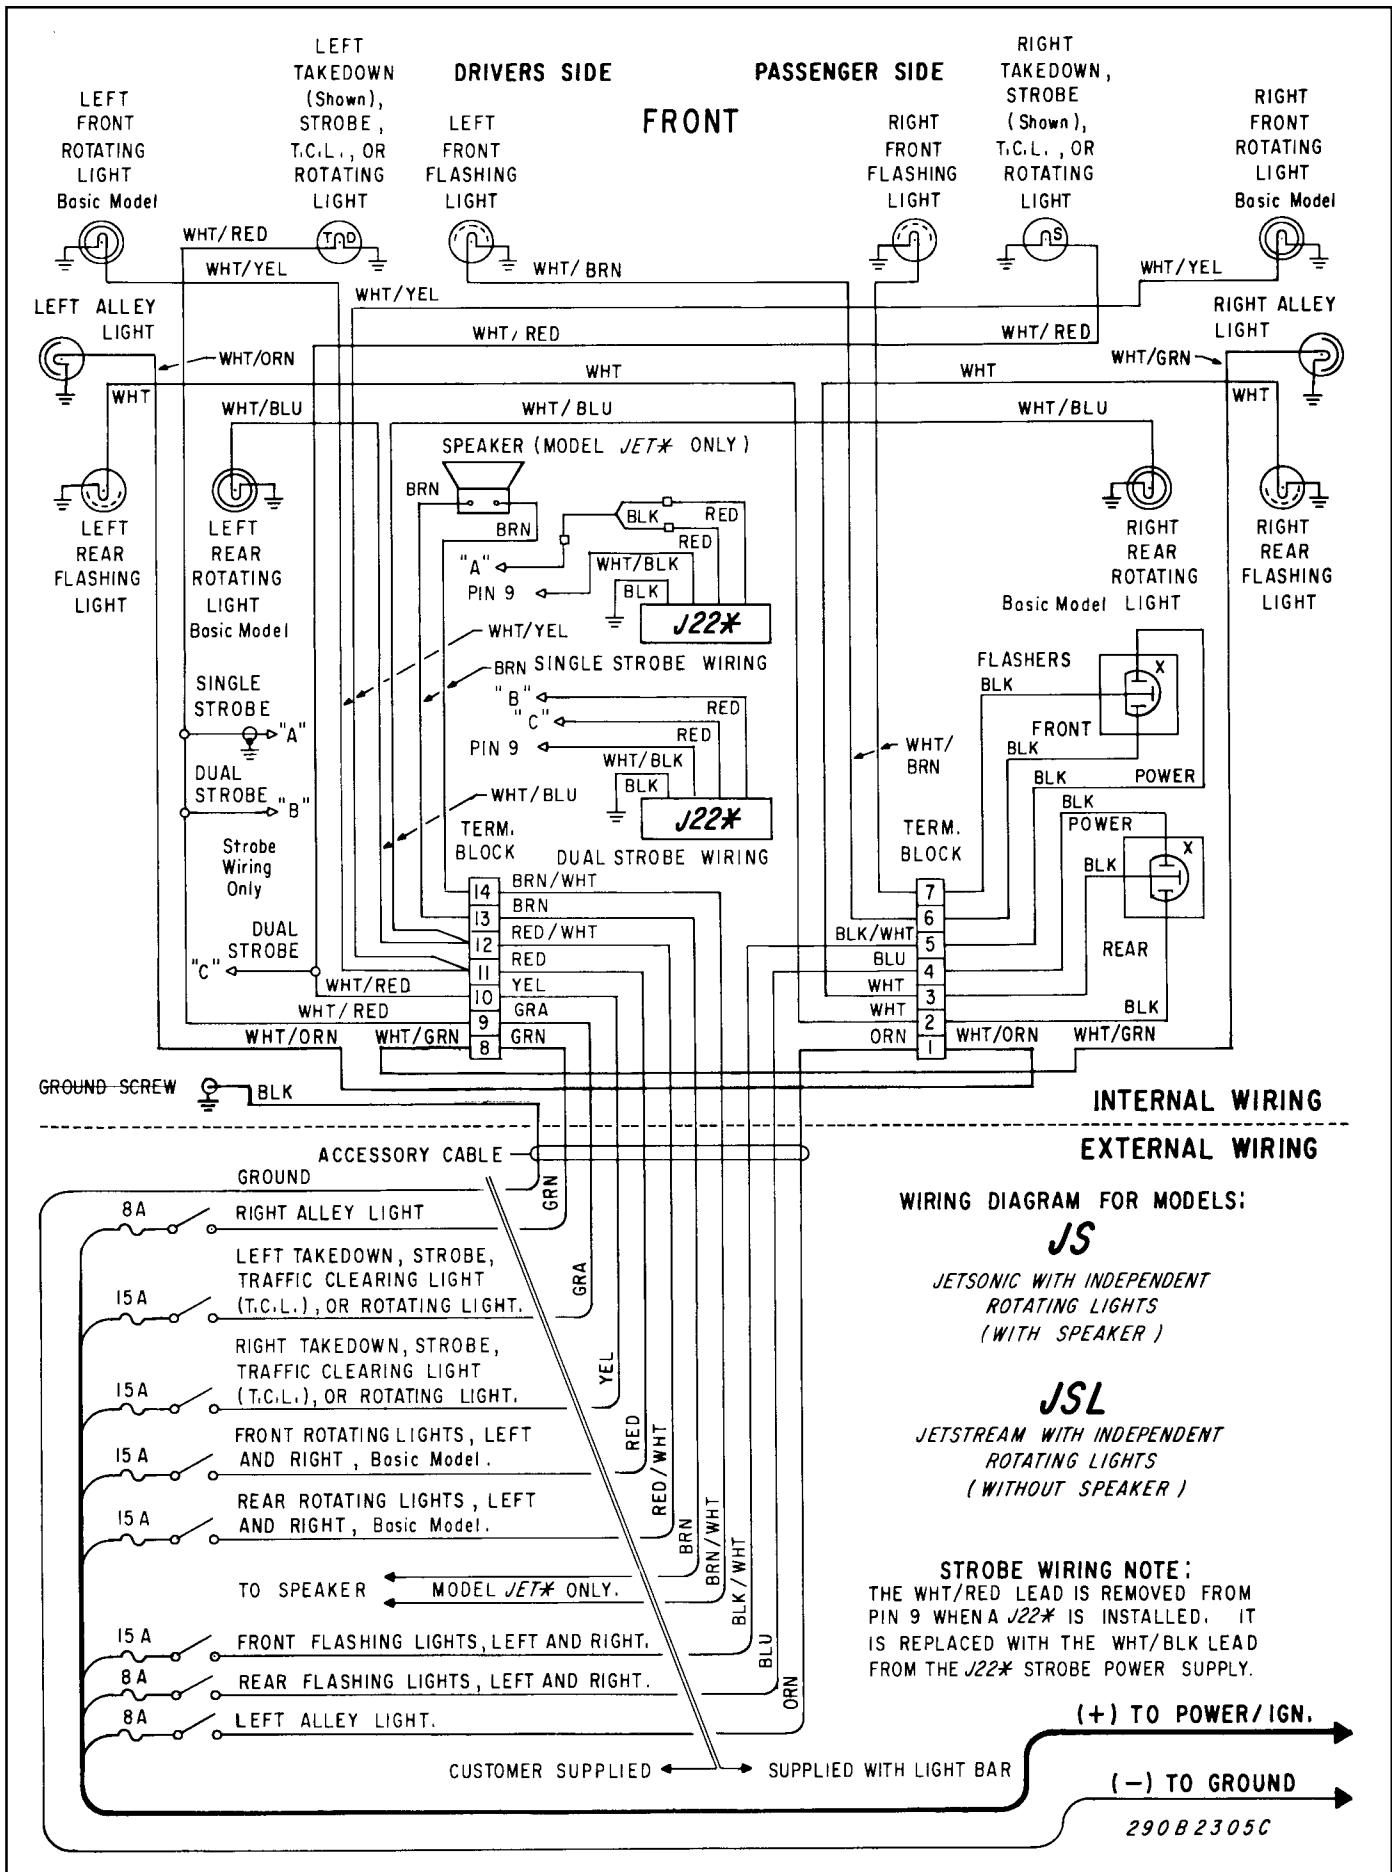

Figure 1. Wiring Diagram.
B. For proper light operation, the control cable must be properly terminated inside the user supplied control head. Using figure 1 as a guide, make the appropriate electrical connections shown in Table 1. Ensure that the lines are adequately fused as shown in figure 1.